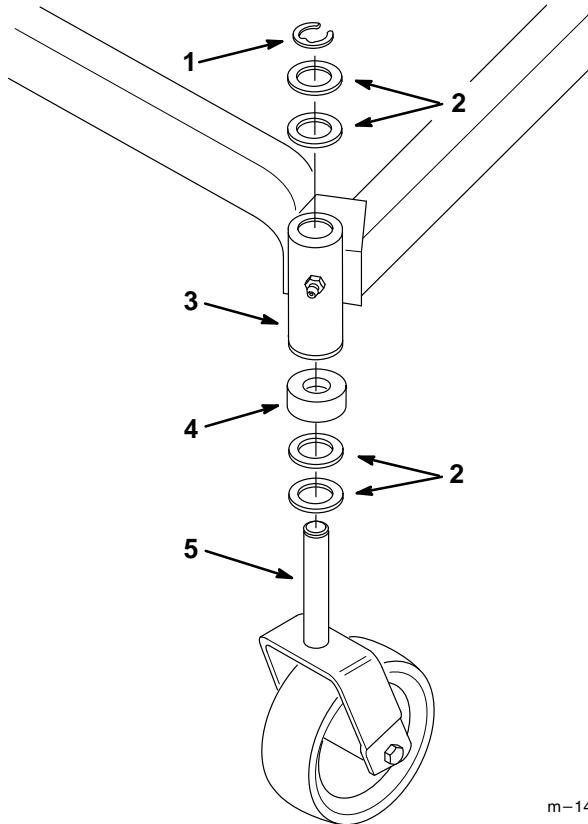

Figure 2
1. Place two (2) thrust washers and the spacer onto the castor wheel fork (Fig. 2).
2. Insert the castor wheel fork into the carrier frame mounting tube (Fig. 2).
3. Install two (2) thrust washers onto the castor wheel fork, then secure with a retaining ring (Fig. 2).